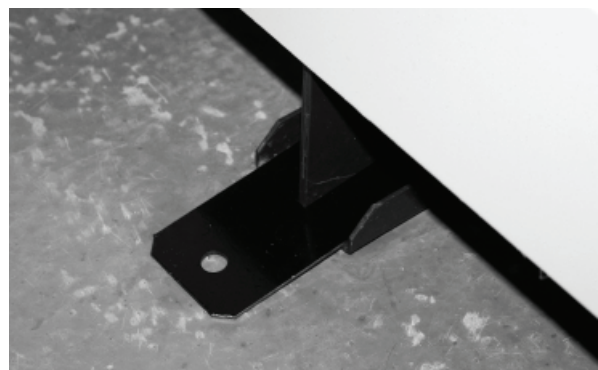

Fig 2.1
- 1) Slide plate into position so that it interlocks onto the LH central base support. Mark floor with hole position and remove plate (Fig 2.1).